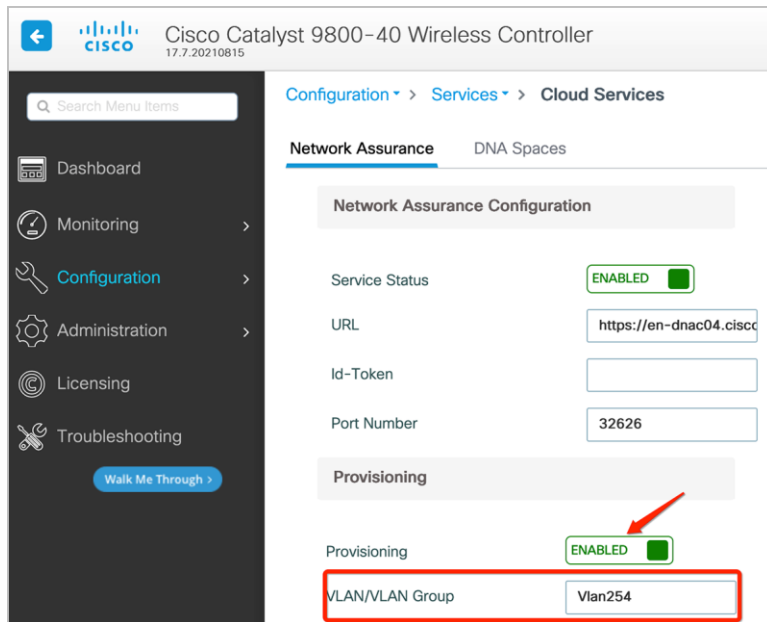

Figure 16.
1. For Cisco Catalyst® 9800 Series devices, the CiscoSensorProvisioning SSID is enabled from Configuration > Services > Cloud Services > Network Assurance > Provisioning: ENABLED (**Figure 16**).